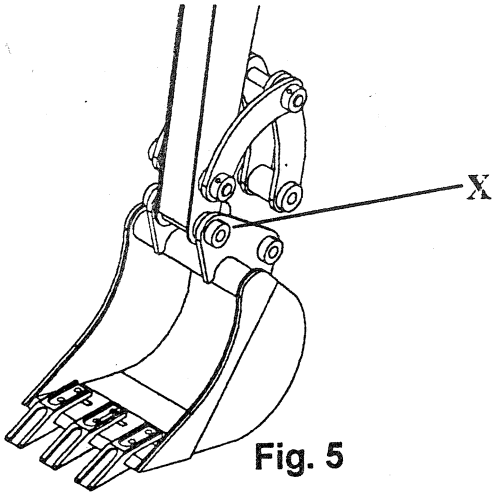

Fig. 5
2) Align the arm of the equipment with the bucket until it is in alignment with the pivot opening **X** Fig. 5;